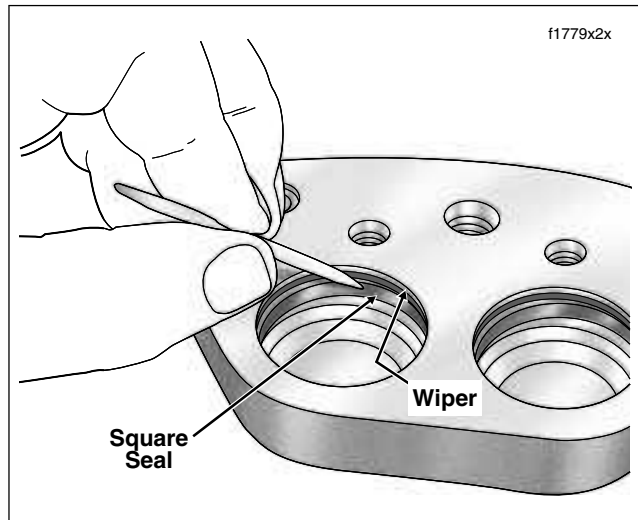

Figure 2-62. Remove Wipers and Square Seals From Piston Bores
7. Using a wooden toothpick, remove wiper and square seal from each piston bore. Discard wipers and seals. See Figure 2-62.